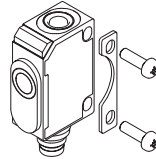

Fig. 1: Attachment with mounting plate
- Mount the sensor at the installation site with the aid of the enclosed mounting plate, s. Fig. 1. Maximum torque: 0,5 Nm